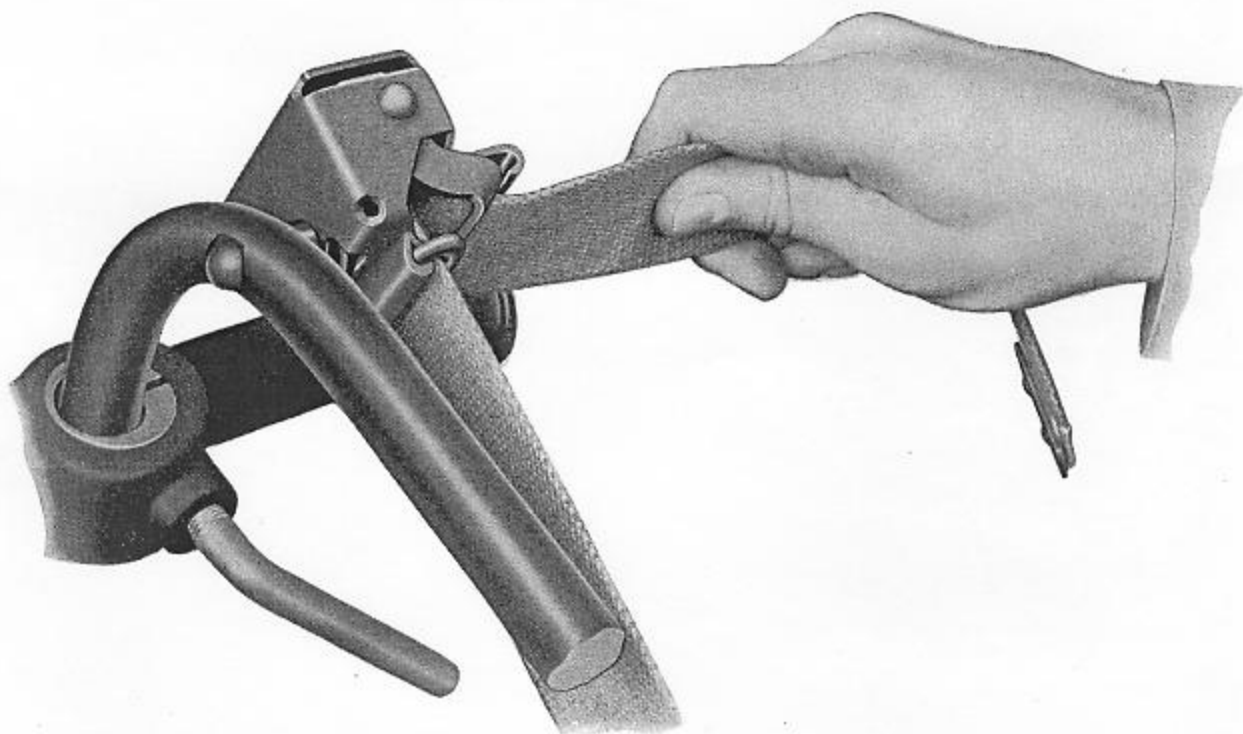

Figure 77—Pull strap outward to lock
4. Lock strap by outward pull on free end and release, see Figure 77.